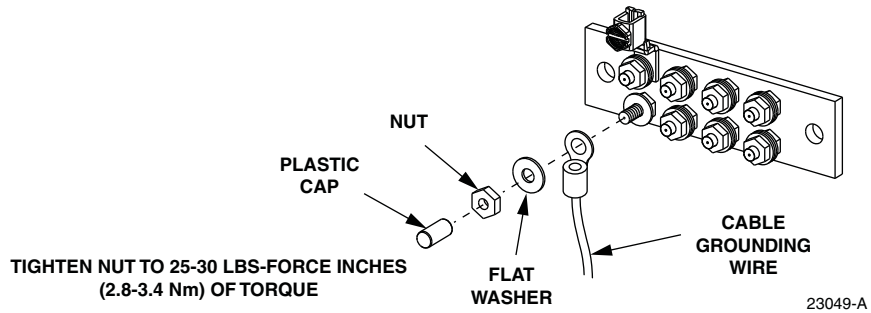

Figure 33. Connecting Grounding Cable to Grounding Block
3. Remove the protective plastic cap, nut, and flat washer from one of the grounding studs on the grounding block as shown in Figure 33.